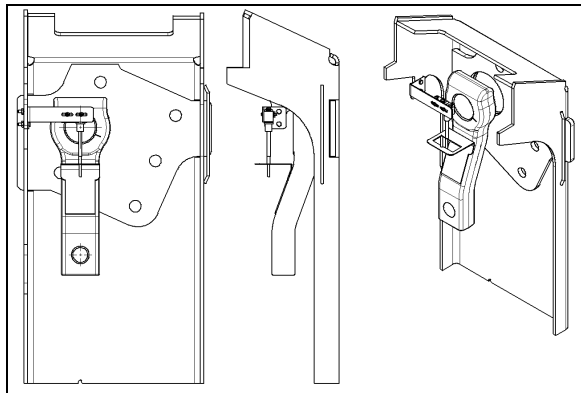

FIGURE 20: TAG AXLE UNLOADING SWITCH ADJUSTMENT 14061
2. Line up switch lever with reference to the bracket center (Refer to figure 20).